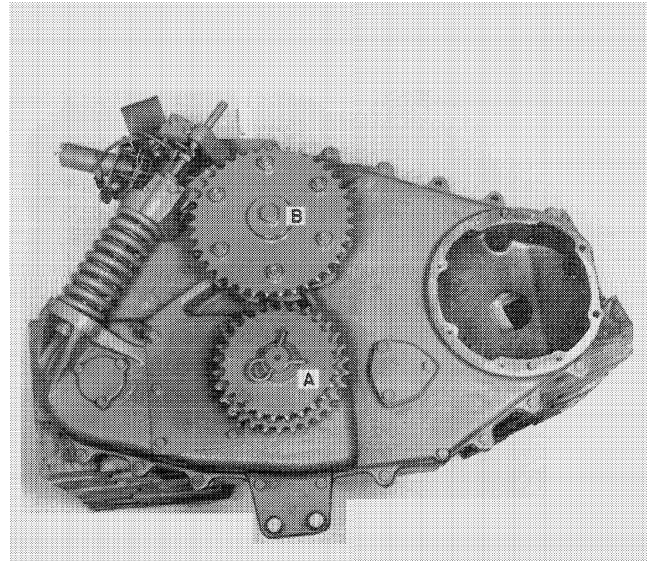

FIGURE 2-35
1. Support the gearbox on blocks as shown in Figure 2-35. Remove the length-of-cut sprocket assembly, A, and sprocket assembly, B, from the straight spline shaft.